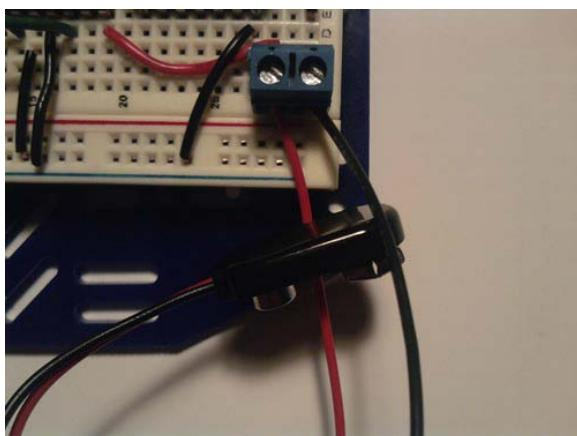

Figure 4-21. 9V connector attached to the terminal block
9. Connect pin 2 on the hex inverter to pin 2 on the H-bridge (see Figure 4-21).